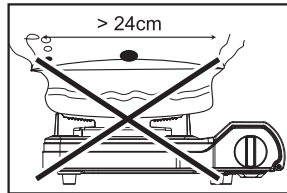

Fig. 3
- Do not use oversize pot with diameter of bottom > 24cm (Fig. 3)